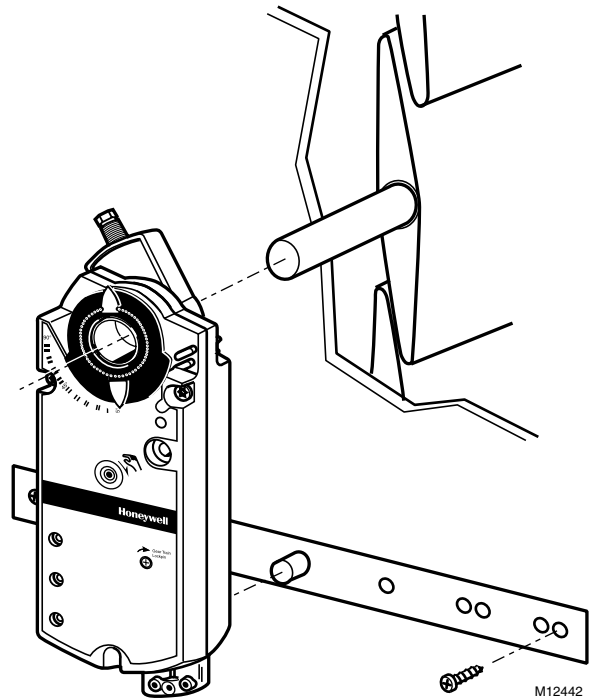

Fig. 5. Mounting bracket installation.
3. Install the mounting bracket (see Fig. 5). Mark the screw holes for installing the mounting bracket on the damper housing.